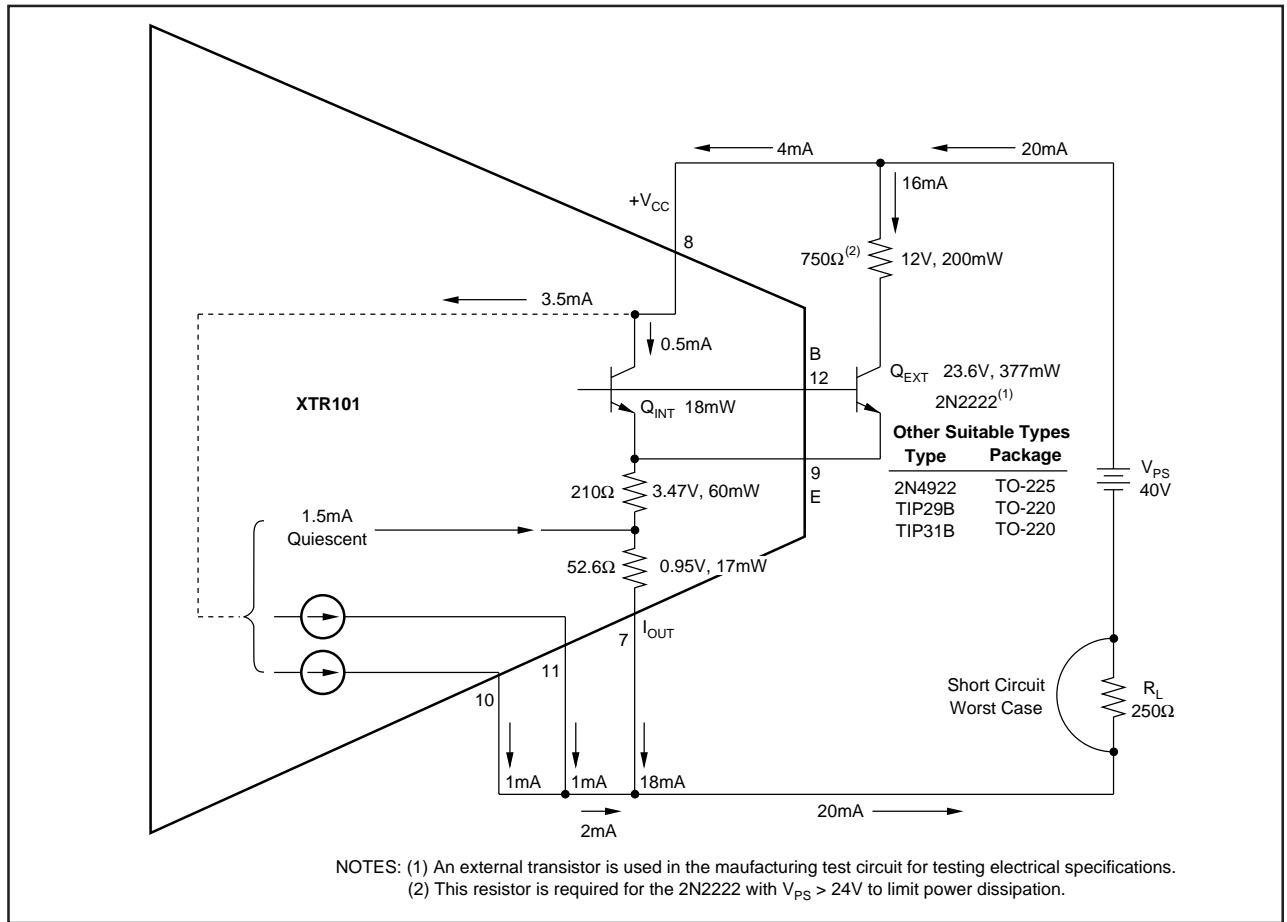

FIGURE 2. Power Calculation of XTR101 with External Transistor.
The optional external transistor, when used, is connected in parallel with the XTR101's internal transistor. The purpose is to increase accuracy by reducing heat change inside the XTR101 package as the output current spans from 4-20mA. Under normal operating conditions, the internal transistor is never completely turned off as shown in Figure 2. This maintains frequency stability with varying external transistor characteristics and wiring capacitance. The actual "current sharing" between internal and external transistors is dependent on two factors: (1) relative geometry of emitter areas and (2) relative package dissipation (case size and thermal conductivity). For best results, the external device should have a larger base-emitter area and smaller package. It will, upon turn on, take about  $[0.95 (I_O - 3.3\text{mA})]\text{mA}$ . However, it will heat faster and take a greater share after a few seconds.
tions shown in Figure 2. Thus the 2N2222 will safely operate below its 400mW rating at the upper temperature of +85°C. Heat sinking the 2N2222 will result in greatly reduced accuracy improvement and is not recommended.